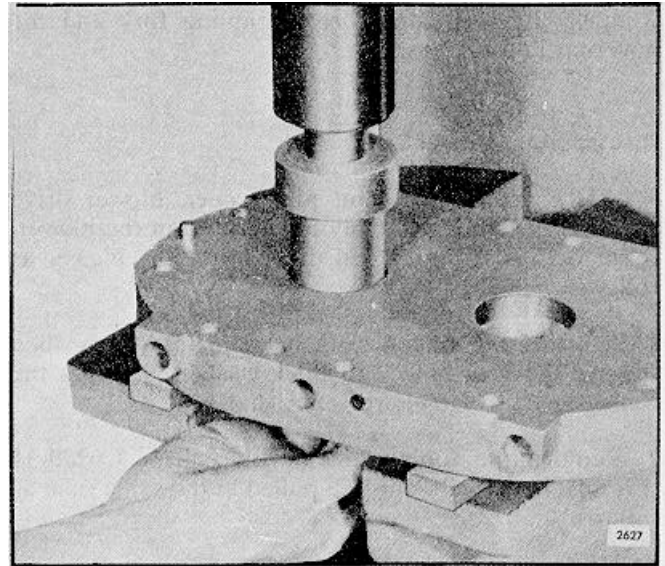

FIG. 6 - Removing Oil Seal Ring Collar and Bearing from End Plate with Tool J 6270-3
- h. Refer to Fig. 6 and support the outer face of the blower end plate on wood blocks on the bed of an arbor press.
- i. Place the long end of the oil seal remover and installer J 6270-3 down through the oil seal ring collar and into the bearing, with the opposite end of the remover under the ram of the press (Fig. 6). Then press the bearing and oil seal ring collar out of the end plate.